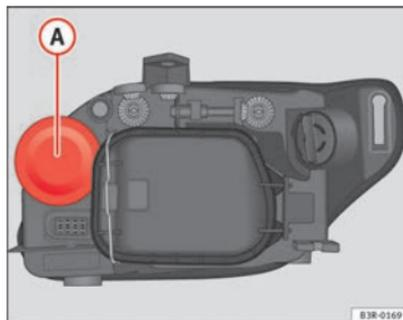

Fig. 206 Turn signal bulb
- Pull the rubber cap ⇒ Fig. 206 to remove it.